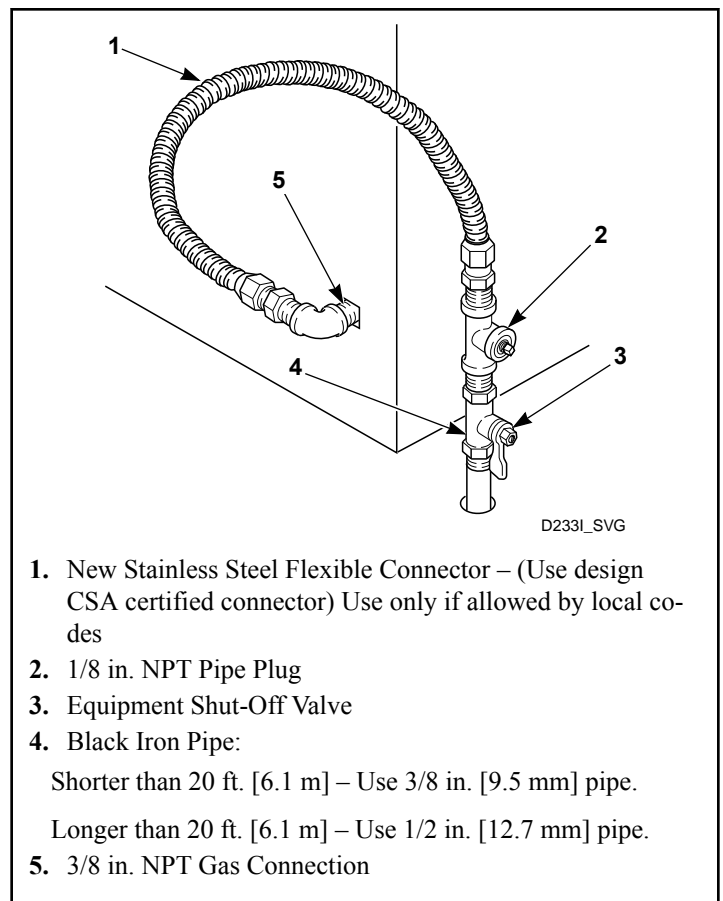

Figure 10
**NOTE: When connecting to a gas line, an equipment shut-off valve in accordance with the National Fuel Gas Code, ANSI Z223.1/NFPA 54 and the Natural Gas and Propane Installation Code, CSA B149.1 must be installed within 6 feet [1.8 m] of the dryer. An 1/8 in. NPT pipe plug must be installed as shown for checking inlet pressure. Refer to Figure 10 .**